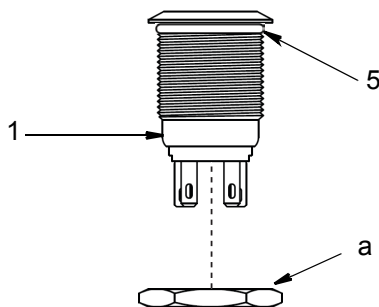

FIG. 1
3. Remove lock nut (a) from button (1). Install o-ring (5) (FIG. 1).